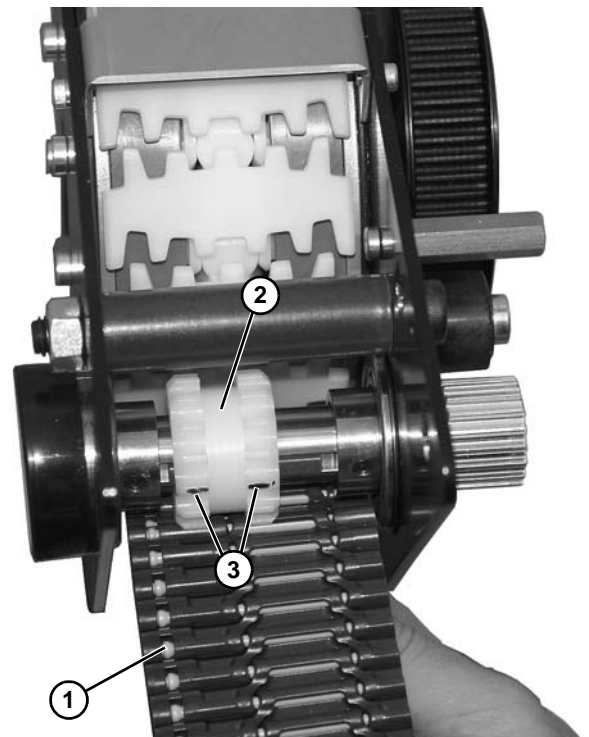

Figure 171
3. Raise belt (Figure 171, item 1) into position, and move gear (Figure 171, item 2) so that cogs line up with belt, as shown.
4. Tighten sprocket with set screws (Figure 171, item 3) in proper alignment with belt (Figure 171, item 1).